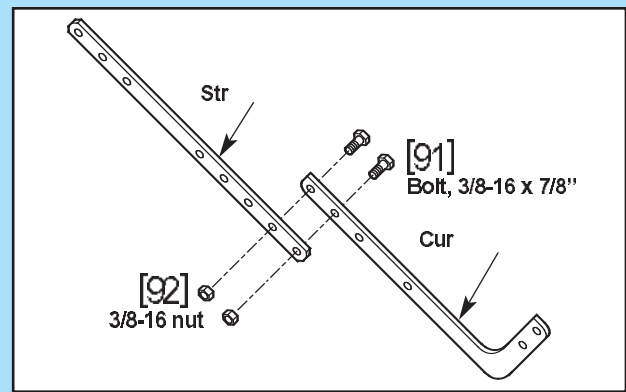

Fig. 2-16
10. Assemble door arms exactly as shown (Fig. 2-16).
- Overlap arms by two (2) holes.
- Install two (2) 3/8" x 7/8" hex bolts, and hex flange nuts.